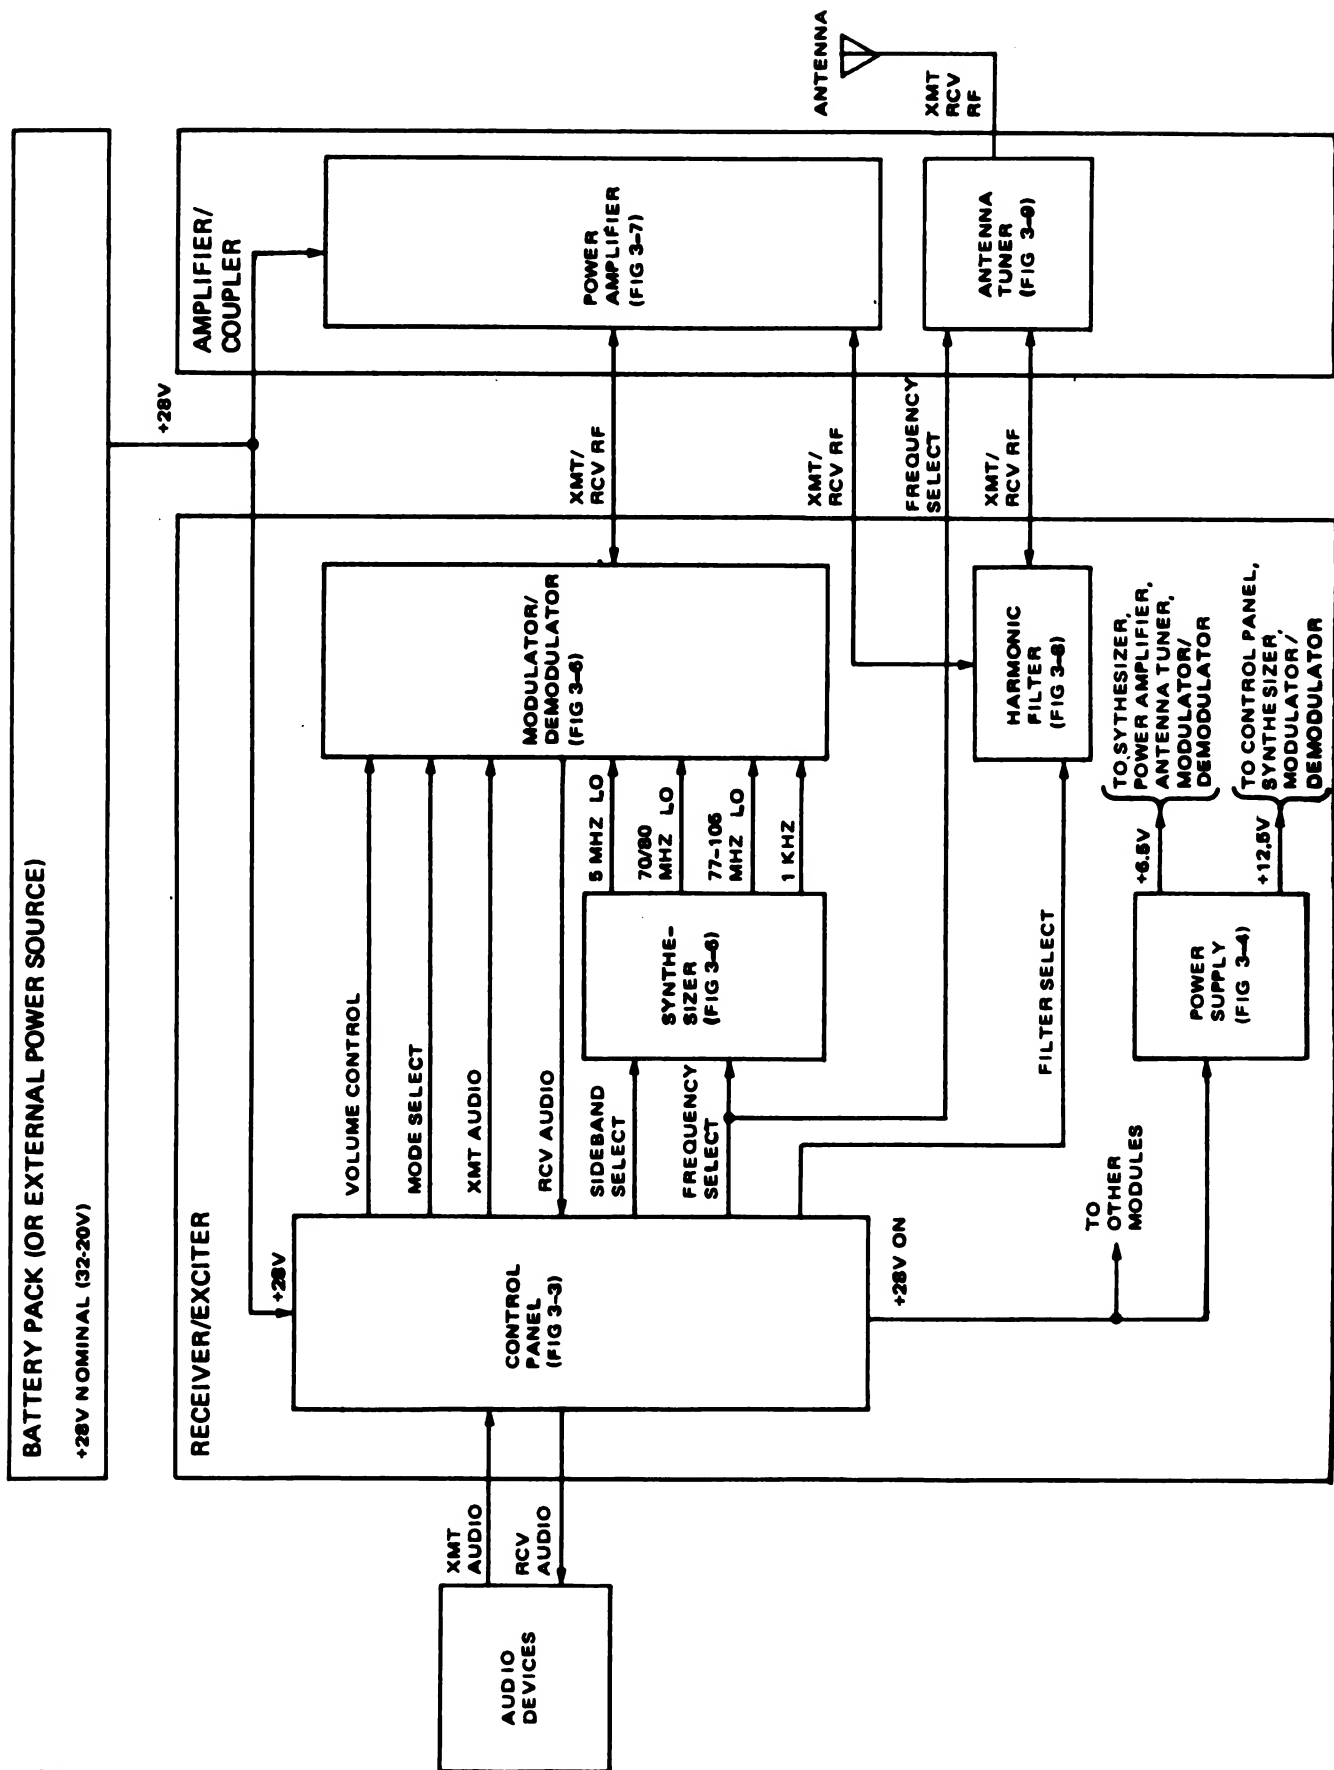

Figure 3-2. Radio Set Simplified Block Diagram
3-10. CONTROL PANEL (Figure 3-2). The receiver/exciter control panel provides operational control of the radio set. It couples voice or CW key from the audio devices in use by the operator, and has controls for selection of frequency, volume, mode, and sideband (SB), and illumination of frequency readouts. Frequency Select and Sideband Select signals are routed to the synthesizer, and the Frequency Select signal also to the antenna tuner. Filter Select signals are routed to the harmonic filter. Volume control, mode select and Xmt Audio are applied to, and Rcv Audio is received from, the modulator/demodulator. The control panel also